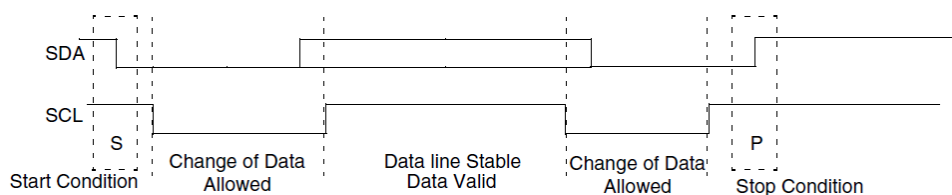

Figure 31: START and STOP Conditions
When the bus is idle, both the SCL and SDA signals are pulled high through external pull-up resistors on the bus. When the master wants to start a transmission on the bus, the master issues a START condition. This is defined to be a high-to-low transition of the SDA signal while SCL is 1. When the master wants to terminate the transmission, the master issues a STOP condition. This is defined to be a low-to-high transition of the SDA line while SCL is 1. Figure 31 shows the timing of the START and STOP conditions. When data is being transmitted on the bus, the SDA line must be stable when SCL is 1.
**Note:** The signal transitions for the START/STOP conditions, as depicted in Figure 31, reflect those observed at the output signals of the Master driving the I2C bus. Care should be taken when observing the SDA/SCL signals at the input signals of the Slave(s), because unequal line delays may result in an incorrect SDA/SCL timing relationship.